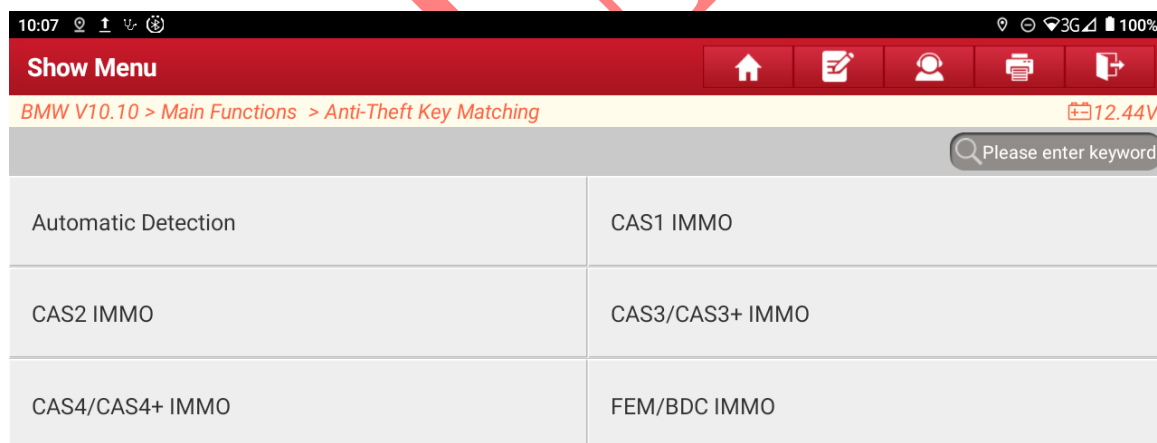

Figure 2
2. Select **【Automatic Detection】** , as shown in Figure 2.